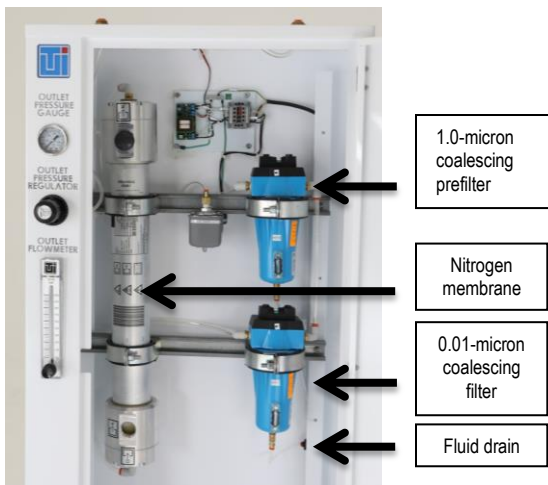

Figure 1: Filter Locations
A slide indicator on these filters changes color (from green, to yellow, and then to red) when the filter element inside either unit needs to be replaced (see Figure 1). This indicator should be monitored monthly. Under continuous use at 100 PSI, filters will operate for approximately two years (20,000 hours).
1. Open the front housing panel of the Nitrogen Generator to expose the filters (see Figure 1).